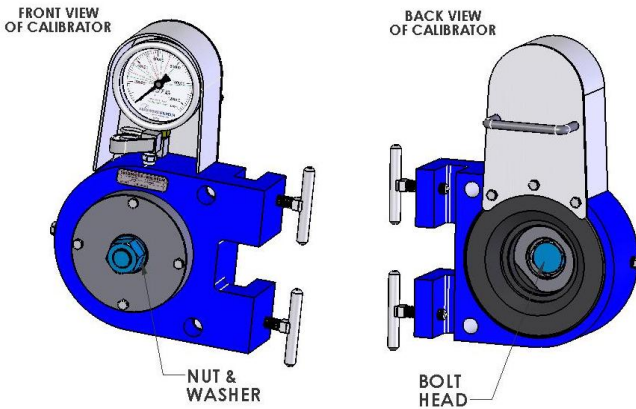

Figure 7, Installation of Fastener Assembly to be Tested
- Install the washer and nut on plate side. See Figure 7.